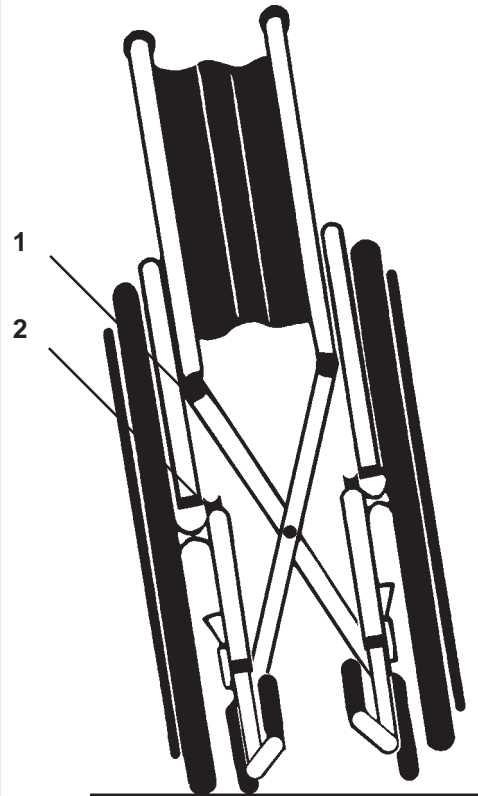

Fig. 1
Tilt the wheelchair towards you far enough to take the weight off the opposite wheel (Fig.1). Push down with the palm of the hand on the seat rail (1) closest to you until the wheelchair has completely opened. Allow the chair to return to an upright position on all four wheels. Complete the opening procedure by now standing in front of the chair, placing the palms of your hands on both seat rails, and pressing down making sure the seat rail snaps into the rail saddles (2).